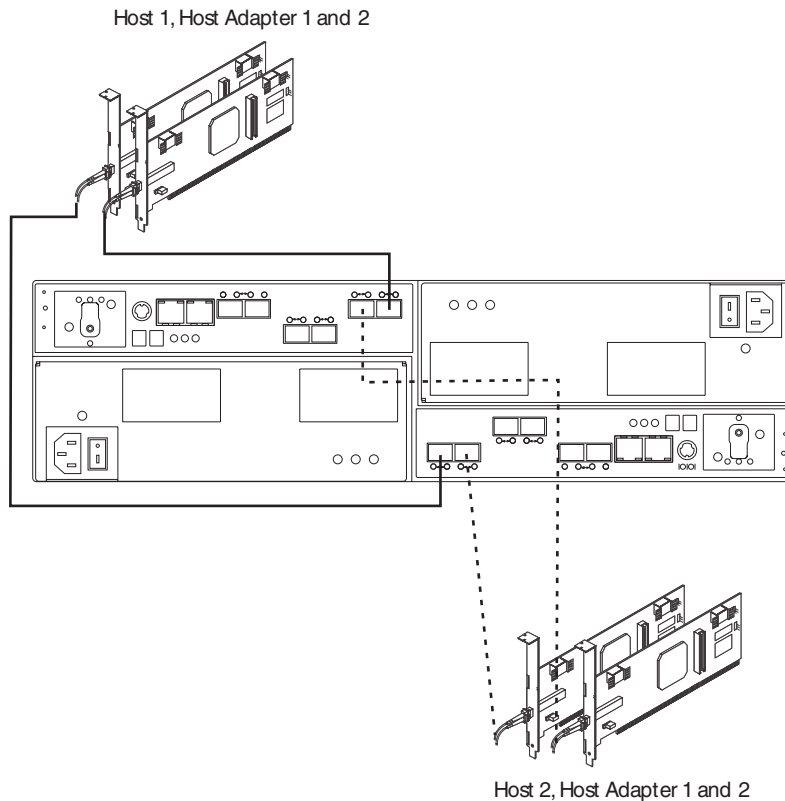

Figure 55. Cabling diagram for two redundant host connections
3. Repeat steps 1 on page 84 and 2 on page 84 for each additional redundant host connection. You can create two redundant host connections for the DS5020 storage subsystem, as shown in Figure 55 on page 86, or a maximum of four redundant host connections (not shown). With four redundant host connections, you can have a connection to a DS5020 Fibre Channel host bus adapter or to Fibre Channel switch ports.